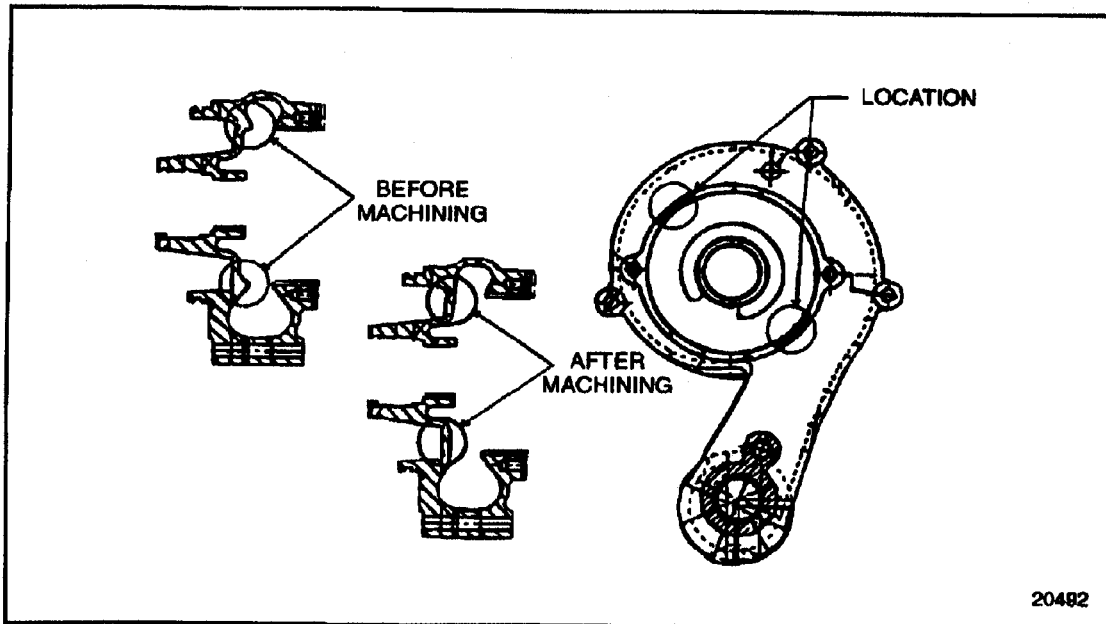

Figure 4-43 Water Pump Body Modification (FM)
2. Inspect the water pump housing for relief slots in the water seal cavity. If pump is without the relief slots, modify the area in which the impeller rides to add the slots. See Figure 4-43.
- [b] Using a die grinder (if possible, have professionally machined), remove 38.1 mm (1.5 in.) of material in the 10 o'clock and 4 o'clock positions of the raised belt that surrounds the water pump impeller. See Figure 4-43. Enough material should be removed so that, when machined, the slot is flush with the rest of the casting.